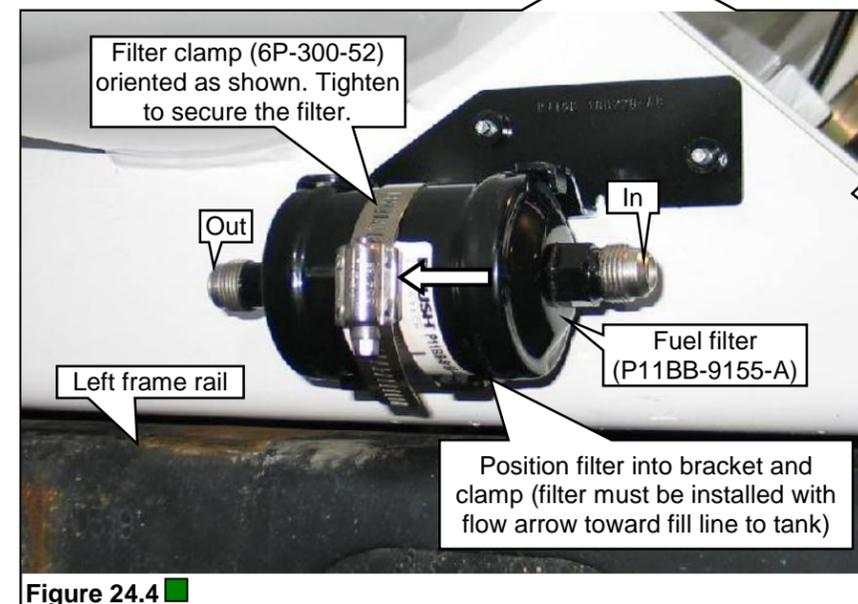

Figure 24.4 ■
13. Slide the filter over the bracket and through the clamp until the filter is correctly engaged with the bracket. The filter must be oriented so that the arrows are facing the direction of fuel flow; in from the fill valve and out to the tank. Tighten the clamp to secure the filter to the bracket. **Figure 24.4.**